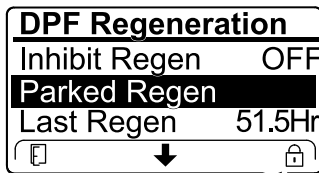

Figure 71
- If the engine computer requests a recovery regeneration or is processing a recovery regeneration and you scroll down to the PARKED REGEN option, parked regeneration locks and the lock icon (Figure 71) appears in the lower right corner of the InfoCenter.